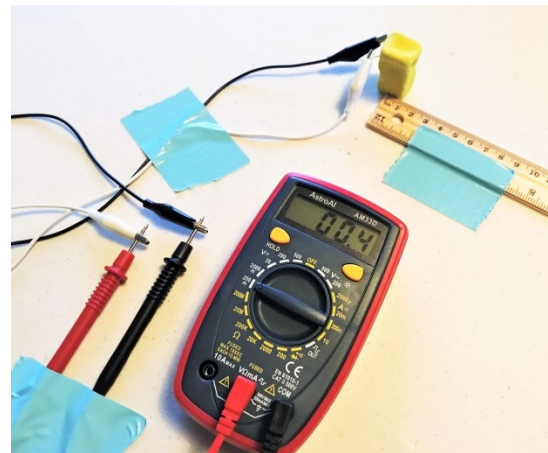

Fig. 6: Voltmeter connected to the LED. LED is aligned at 0 cm mark on the ruler. Everything is taped down to avoid unwanted shifting during the experiment.
11. Align the front end of the detector LED with the 0 cm mark on the ruler and face it toward the 30 cm end (see Fig. 6).